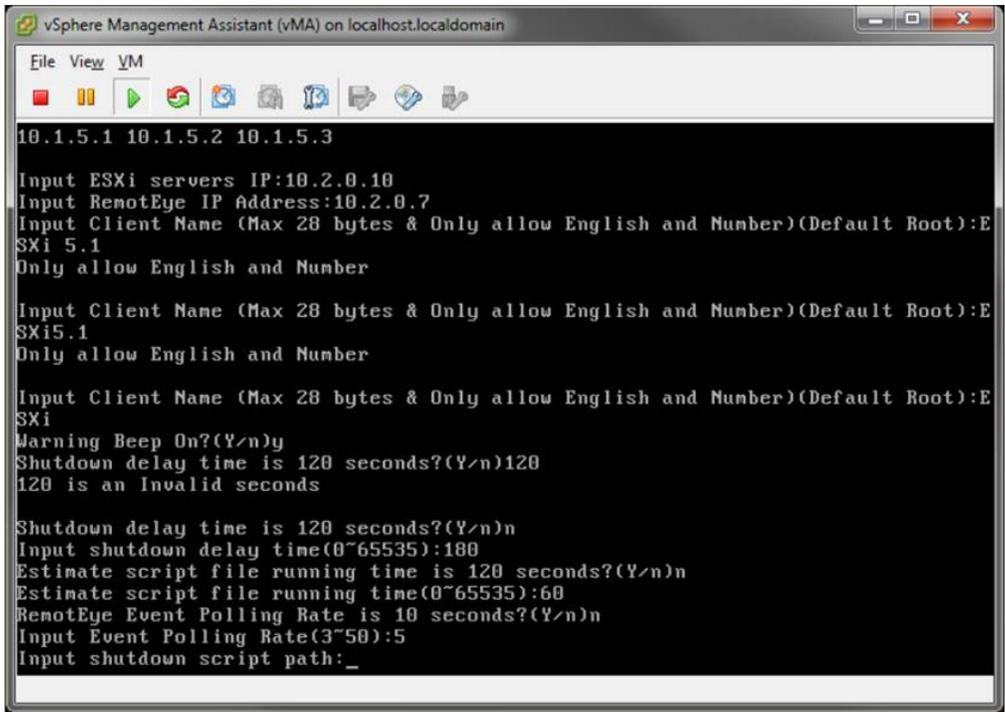

Figure 0-7 Install Screen Shot
14. Install the software: Type **“sh install.sh”** in the command prompt and press **Enter**. Follow the instruction prompts. (See Figure 0-7)